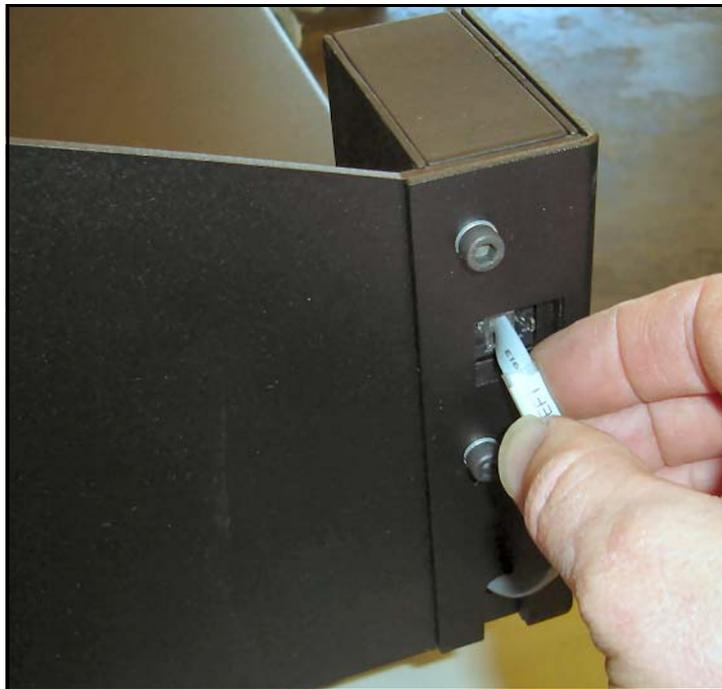

Figure 6
6. Insert the plug on each length sensor cable into its socket on the back (at each end) of the CubiScan (see Figure 6).